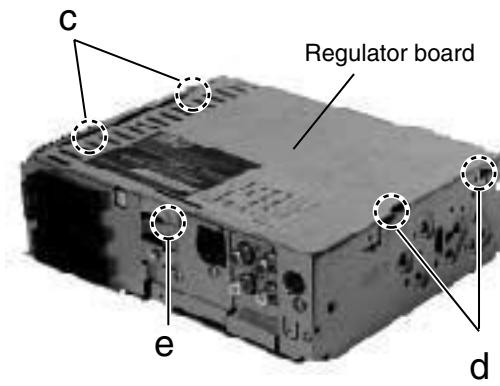

Fig.3
■ Removing the bottom cover (See Fig.3)